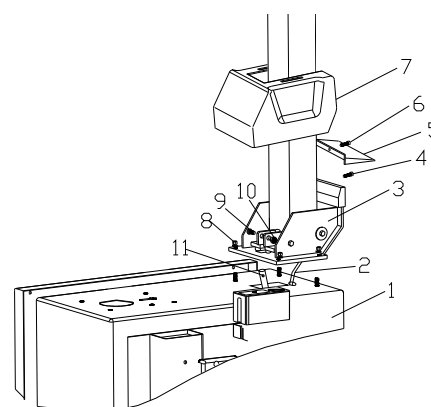

Fig 3
- 2) Place the tilting seat (3, Fig 3) on the body (1, Fig 3) with 4 bolts (M12), push air hose (2, Fig 3) through the hole of the column. Tighten 4 self-locking nut(8, Fig 3).
3) Insert screw (9, Fig 3) into the holes of both column and tilting cylinder shaft (11, Fig 3), tighten it with self-locking nut (10, Fig 3).
4) Unscrew the two bolts on the left cover and remove the cover, connect air hose (2, Fig 3) previously mentioned to the side holes which control the tilting 5-way valve. Fix the left cover.
5) Fix the plastic cover (7, Fig 3) with two bolts (4, Fig 3).
6) Mount the plastic back cover (5, Fig 3) on the column with screw (6, Fig 3).